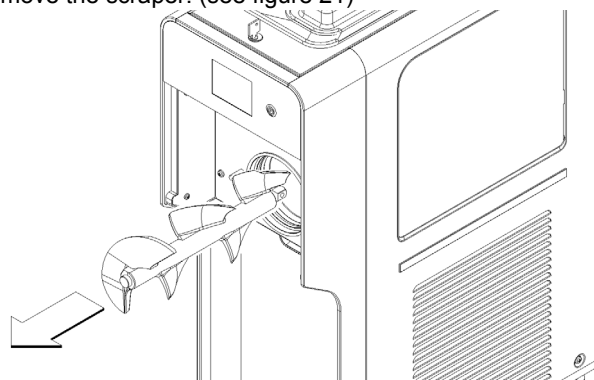

figure 21
- 7** Remove the scraper. (see figure 21)